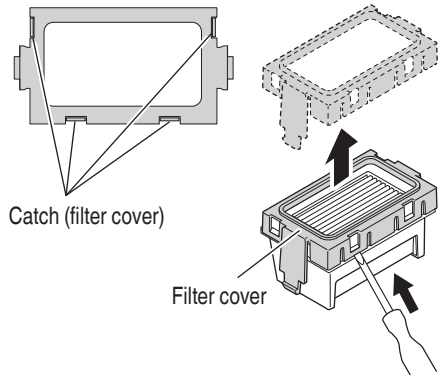

Fig. 24
- (1) Insert a flat-head screwdriver into each of the four catches of the filter cover and remove the cover. (Fig. 24)